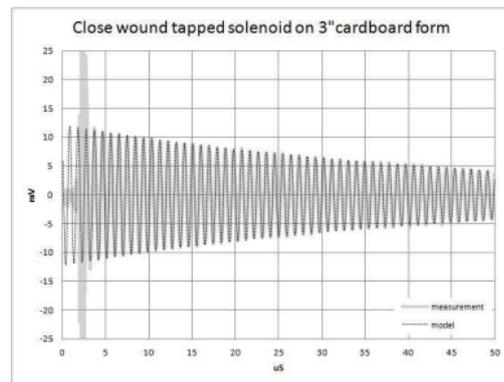

Figure 5. Oscillogram with modeled damped wave response.
This leaves the resistance of the coil (R) as the primary variable. Model the above equation in the spreadsheet by adjusting R until the model results match the measured oscillation from the coil. From the above example we see Figure 5 with the modeled damped wave overlaid on the test oscillation.